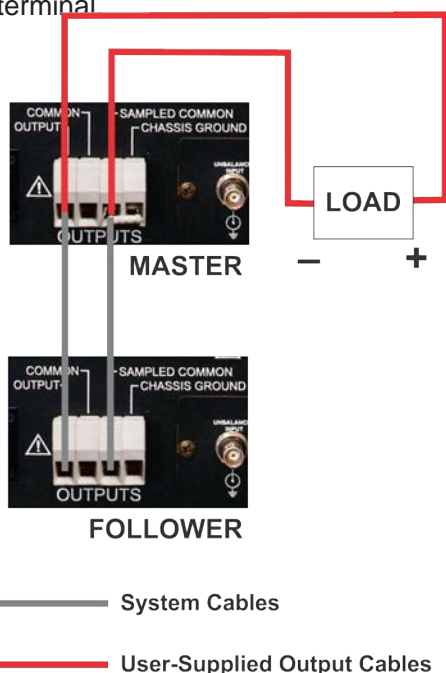

Figure 2.10 – Connecting the load
2. Locate the four-position terminal barrier block on the back panel of the Master amplifier module (see **Figure 2.10**). Connect the negative terminal of the load to the SAMPLED COMMON terminal